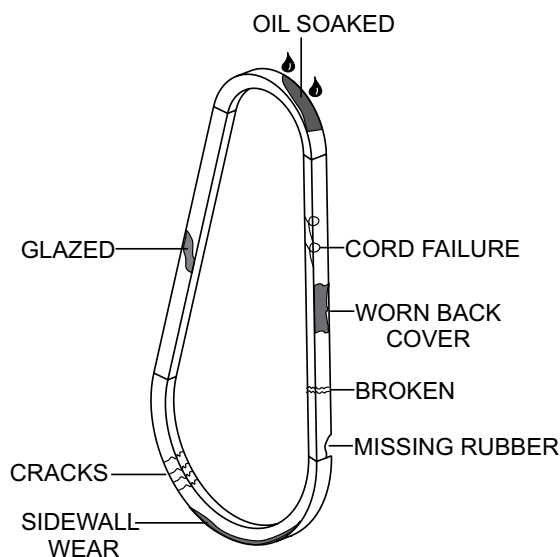

Figure 27. V-Belt Inspection
The V-belt (Figure 27) needs to be replaced as soon as it starts to show signs of wear. **NEVER** use a defective V-belt under any circumstances. Indications of excessive belt wear are fraying, squealing when in use, a belt that emits smoke or a burning rubber smell when in use.
1. Visually inspect V-belt (Figure 27) for signs of damage or excessive wear. If V-belt is worn or damaged, replace V-belt.